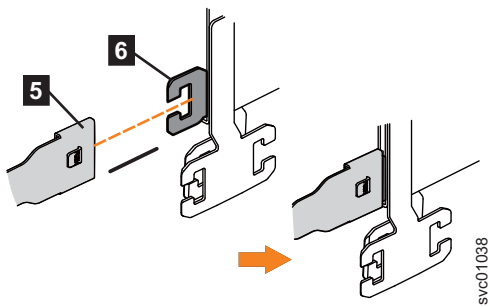

Figure 54. Attach the support rail connector of the upper CMA to the right support rail
4. Attach the support rail connector on the upper CMA assembly (**5**) to the connector base on the right support rail (**6**), as shown in Figure 54.